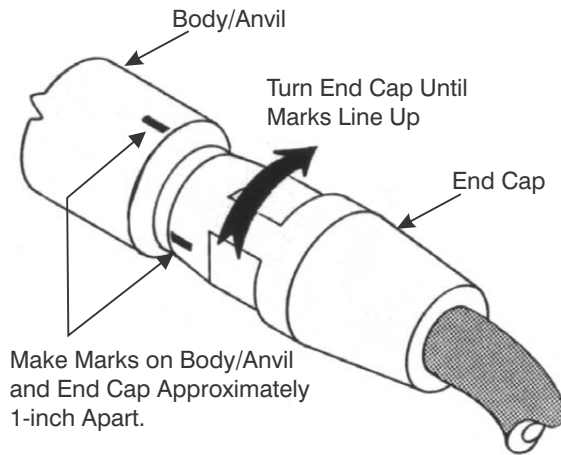

Figure 9-27. Tighten End Cap to Required Torque.
8. Tighten the End Cap to a torque of 550-ft.-lbs (745nm). If a torque wrench is not available, use the following procedure. See Figure 9-27.